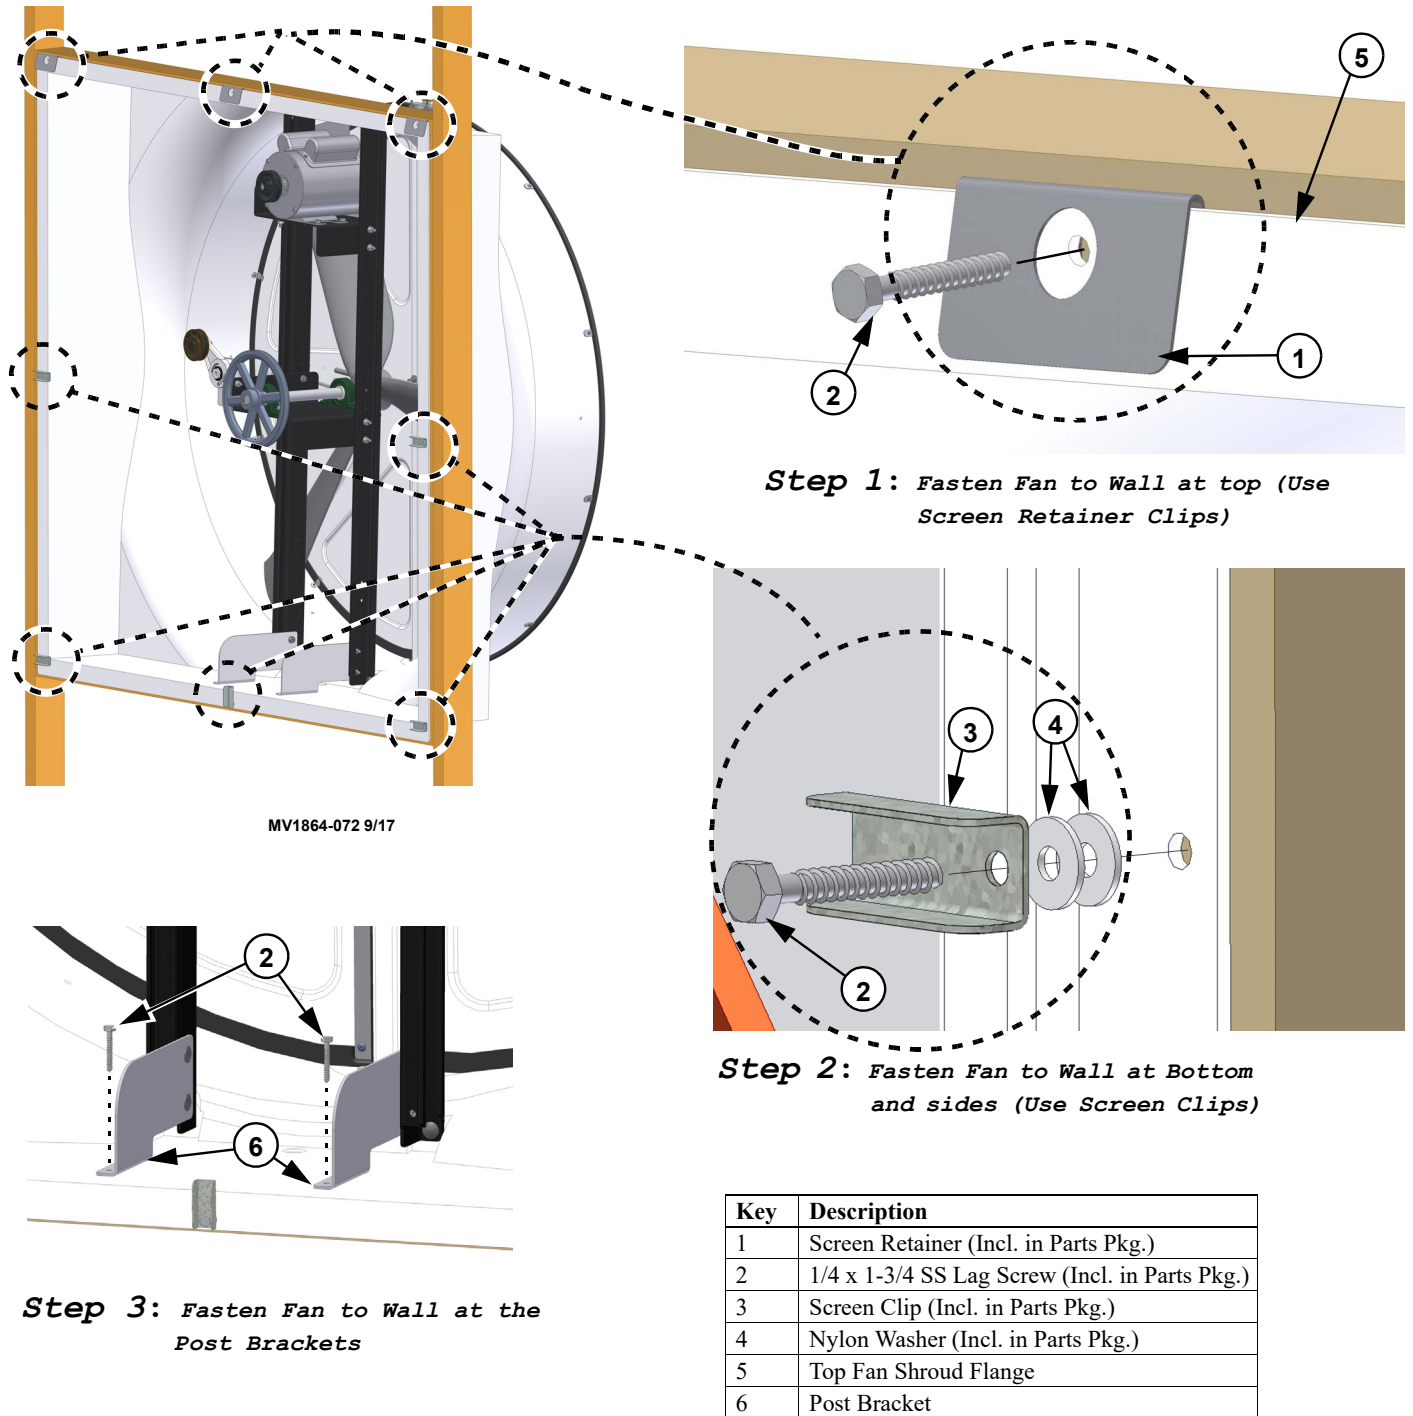

Figure 4. Installing Screen Clips
Locate the three holes across the top Fan Shroud flange (**Item 5, Figure 4**). Line up the Screen Retainers included in the Parts Package (**Item 1**) with these three holes, slip them over the top Fan Shroud flange, and using (3) 1/4 x 1-3/4 Lag Screws included in the Parts Package attach the Fan to the Wall (**Step 1**). In each of the remaining 5 holes in the Fan Shroud flange, use a 1/4 x 1-3/4 Lag Screw, two Nylon Washers, and a Screen Clip, all included in the Parts Package, to secure Fan to the Wall **as shown below in Step 2**. Only tighten the Lag Screws enough that the Clip will retain it's position, but can still be rotated by hand. Use two more Lag Screws to attach the Fan to the Wall through the holes in the Post Brackets (**Step 3, Item 6**).